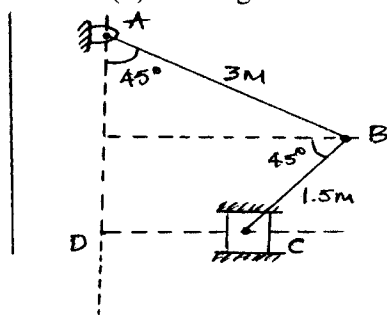

Fig.Q3(b)
- b. In the mechanism shown in Fig.Q3(b), the slider C is moving to the right with a velocity of 1 m/s and an acceleration of  $2.5 \text{ m/s}^2$ . The dimensions of various links are  $AB = 3 \text{ m}$  inclined at  $45^\circ$  with the vertical and  $BC = 1.5 \text{ m}$  inclined at  $45^\circ$  with the horizontal. Determine: i) The magnitude of vertical and horizontal component of acceleration of the point B and (ii) The angular acceleration of the links AB and BC. (10 Marks)